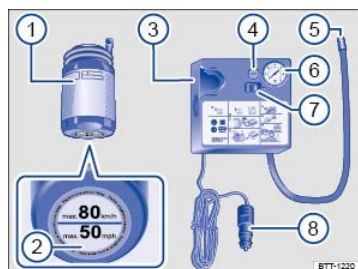

Fig. 230 Basic diagram: Contents of the tire mobility set.
The tire mobility set may be stored in one of several places in the luggage compartment (for example, in the side storage compartment or under the floor covering). contains the following ⇒ Fig. 230:
- Vigorously shake the tire inflation cylinder ⇒ Fig. 230① a few times back and forth.
- Tightly screw the inflation hose on the air compressor ⇒ Fig. 230⑤ to the valve on the top of the sealant cylinder.
- Tightly screw the filling hose from the tire inflation cylinder ⇒ Fig. 230① to the tire valve.
- Hold the cylinder with the bottom pointing up and insert the top of the cylinder into the notch in the air compressor ⇒ Fig. 230③.
- Insert the 12 Volt plug ⇒ Fig. 230⑧ into one of the vehicle's 12 Volt sockets ⇒ Power outlets.
- Switch the air compressor on using the ON/OFF switch ⇒ Fig. 230⑦.
- Let the air compressor run until a pressure of 29–36 psi (200–250 kPa) is reached ⇒ ▲. **Maximum run time 8 minutes** ⇒ ①.
Connect the inflation hose ⇒ Fig. 230⑤ from the air compressor to the tire valve and read the tire pressure on the tire pressure gauge ⑥.